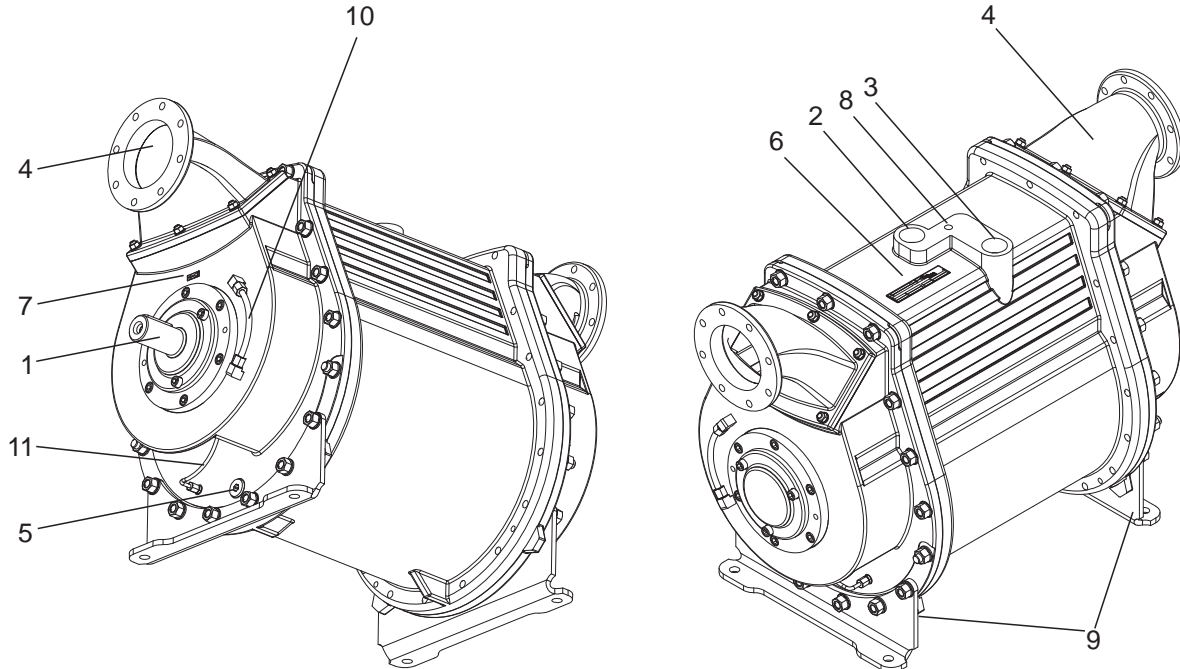

Fig. 1: Design
- Only use eye bolts provided for that purpose. See page 19, Fig.1, Pos. 8
See rotation arrow Page 19, Fig.1, Pos. 7.
- Fill process water directly at the VacuStar up to half full (half shaft; see Page 19, Fig. 1, Pos. 10 "Process water indicator"). The water stop valves in process water inlets avoid filling the VacuStar from the process water reservoir.
- Before the unit is started, the liquid ring pump must always be approximately half full (shaft centre) with liquid (see page 19, Fig. 1, Pos. 10).